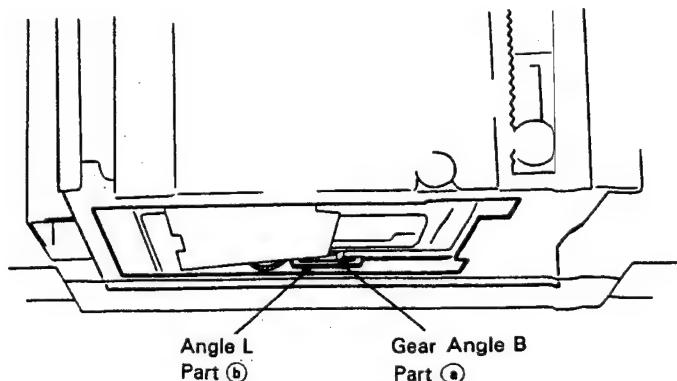

Fig. 4-3
Looking from the top, conform that part ④ of the gear angle B and part ⑤ of the angle L are parallel. (Refer to Fig. 4-3.)